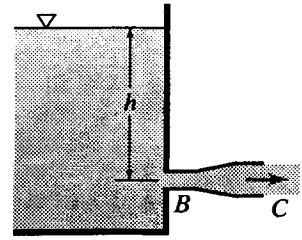

Figure P5.34
- 5.34 In Fig. P5.34 assume the tube flows full. At B, the diameter of the tube is 3 in and the diameter of the water jet discharging into the air is 4.5 in. (a) If all friction losses are negligible, what are the velocity and the pressure head at B if  $h = 10$  ft. (b) What is the rate of discharge in cfs? And what would it be if the tube were cut off at B?